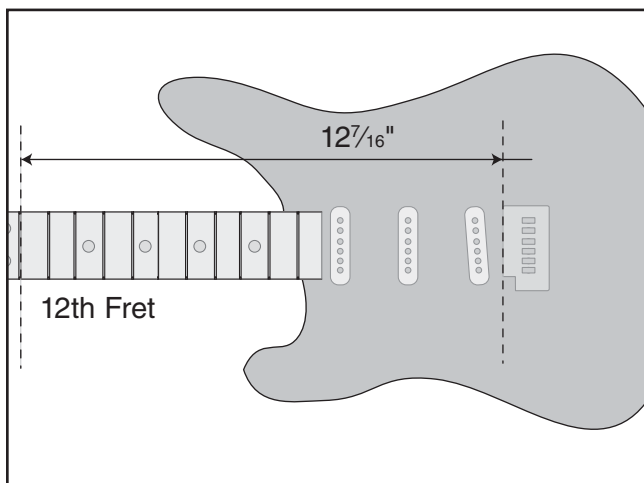

Figure 20. Correct distance between the 12th fret and the tremolo bridge.
2. The tremolo bridge is correctly positioned when the distance between the center of the 12th fret and the front edge of the tremolo bridge are precisely $12\frac{7}{16}$ " apart (**Figure 20**).